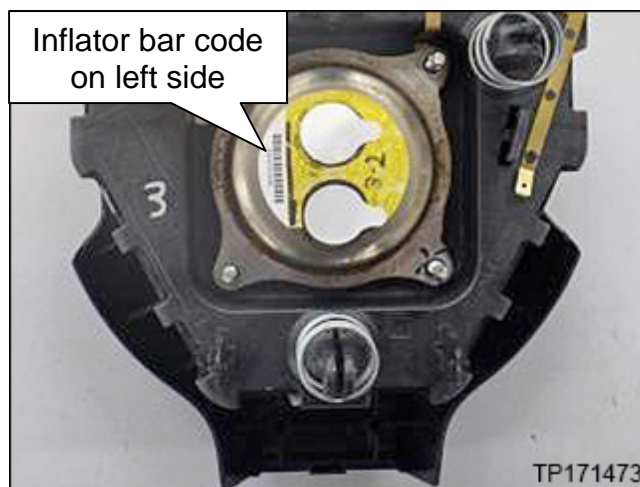

Figure 13
12. Install the new inflator from the **PARTS INFORMATION** into the module as shown in Figure 13.